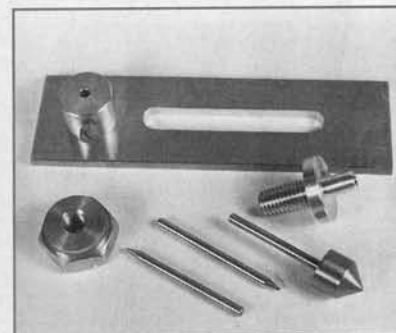
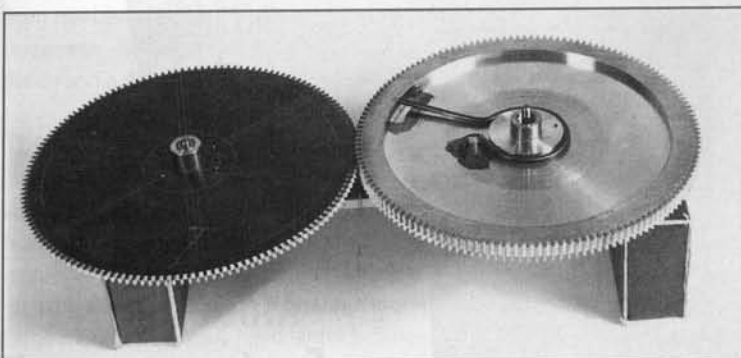

Fig. 19 The home-made depthing tool showing the individual parts.
Fig. 20 Two large clock wheels being meshed in the depthing tool.
readily available from the trade (4). In Fig. 20 I show two wheels being checked for their meshing engagement, the wheels being mounted on the spindles of the depthing tool. When this is correct the distance will be transferred to the clock plate by means of the hardened points shown in Fig. 19.